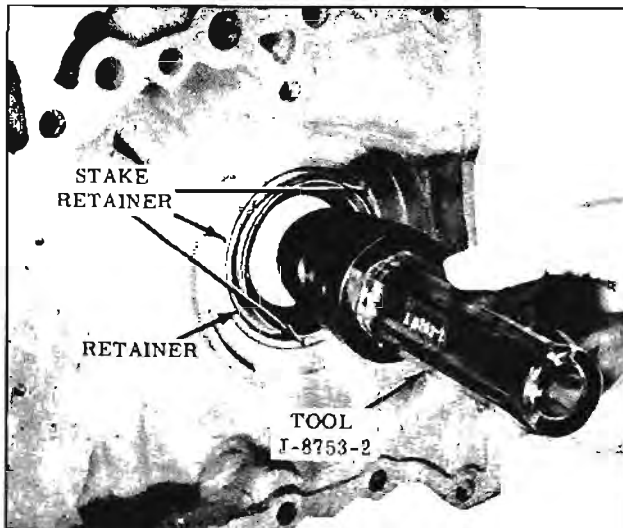

Fig. 8-143 Sizing Front Seal
4. Place Tool J-8753-2 in seal and push tool a little at a time from both sides of the seal until tool goes through seal. (Fig. 8-143)